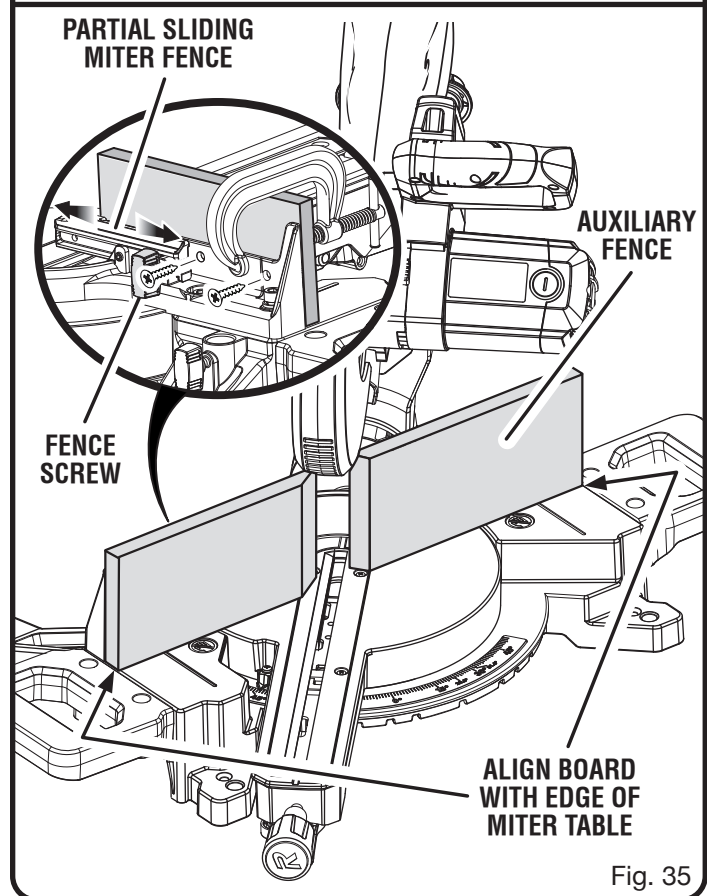

Fig. 35
See Figure 35.
- Assemble and attach auxiliary fence as shown in figure 35.